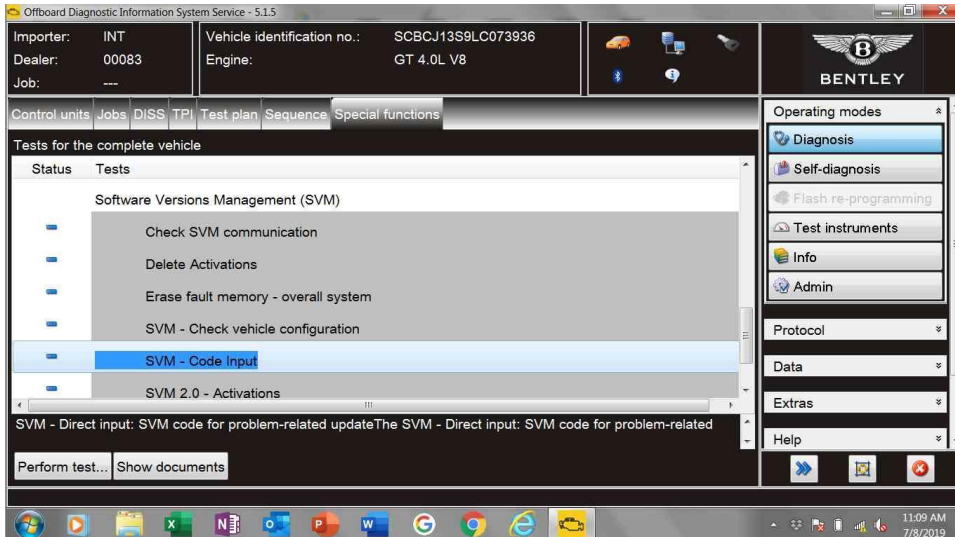

Figure 1
- *Because of the highest transmission stability we recommend the use of the diagnosis interface VAS 6154 (WiFi diagnostic tool) only in the USB operation or the cable-connected VAS 5055 for the reprogramming (updating) of control units. If these units are not available, the diagnosis interface VAS 5054 (A) can also be used in USB mode*
1. Select and run Guided fault finding. Within the Special functions tab select SVM-Code Input then select Perform test (Figure 1).